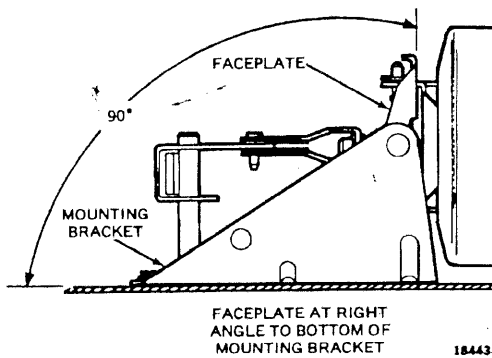

Fig. 5. External Mounting Faceplate Positioning.
2. Check faceplate position and adjust if necessary (Fig. 5).